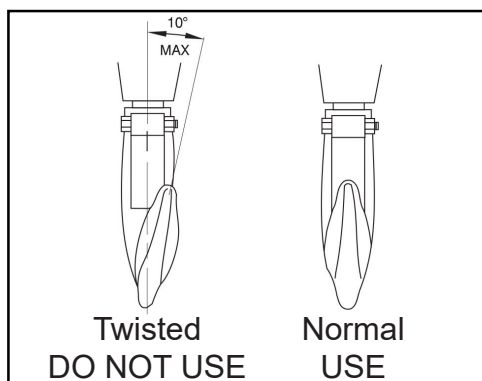

FIGURE 11
- » HOOKS: Check for wear and damage monthly. This includes: cracks, twists, latch engagement and latch operation (See Figure 11). Replace hooks that exceed the throat opening discard width (See Inspection Criteria). If the hook latch snaps past the tip of the hook, the hook has been overloaded and must be replaced. Check the hook support bearings for lubrication and damage. Check that hooks swivel easily and smoothly. Repair or lubricate as needed.